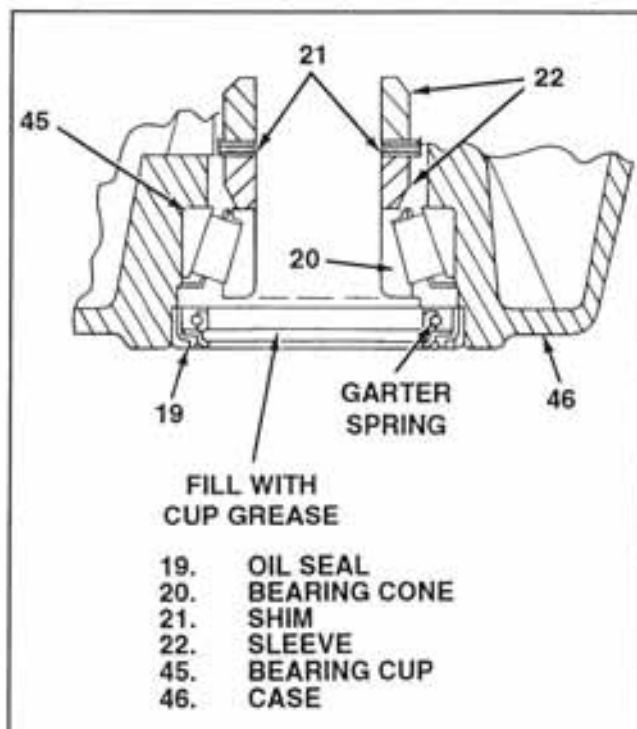

Figure 5-17. Placement of Sleeves and Shims for Assembly
3. Check to make sure the garter spring is correctly positioned on the output seal (19) (see figure 5-17). Coat the large diameter of both sleeves
(22) and shims (21) established in 5-18 step "h" with cup grease. Place sleeves (22) and shims (21) in case (46) cavity, resting on bearing cone (20) and seal (19) as illustrated in figure 5-17.